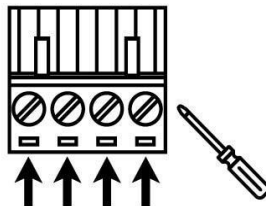

Figure 2.7 - Wiring the Copper Conductors to the Terminal Block
2. Tighten the wire-clamp screws to prevent the wires from loosening, as shown below in *Figure 2.7*.